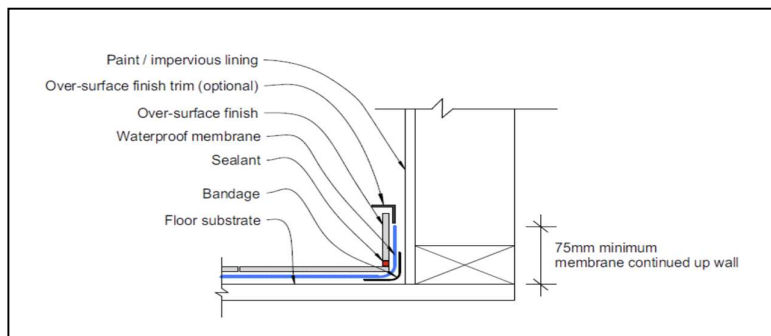

Figure 21: Waterproof membrane system behind skirting
- ✓ Figure 21: Waterproof membrane system behind skirting